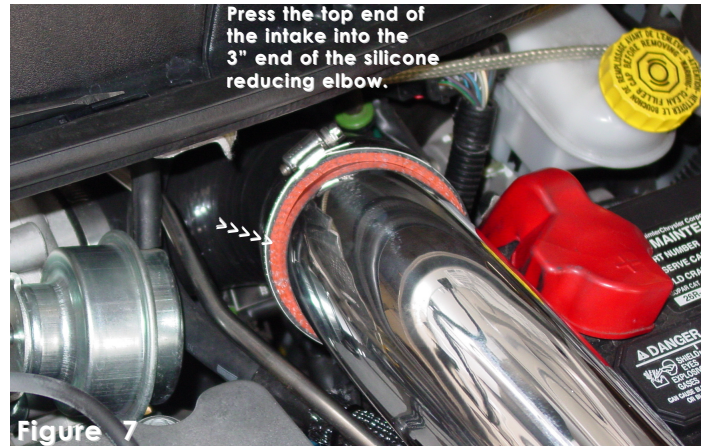

Figure 7
- 6- Insert the top end of the intake into the 3" side of the silicone elbow. This is the elbow connected to the turbo inlet. Semi-tighten the medium clamp on the 3" end of the silicone elbow at this point. (See fig. 7)